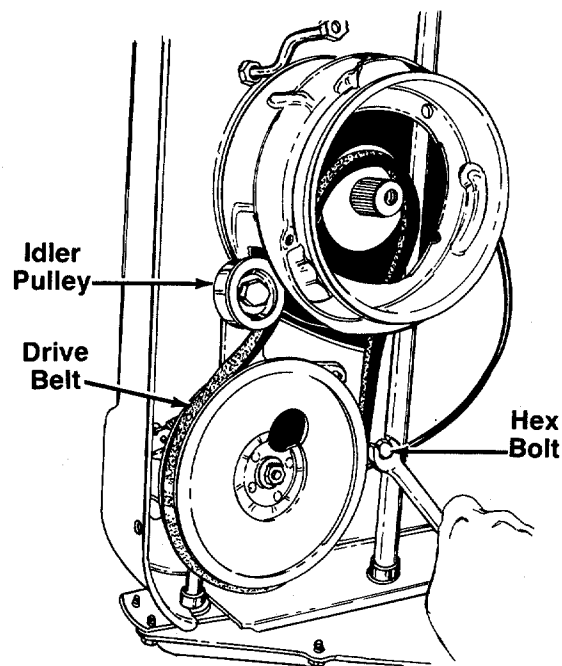

FIGURE 21.
3. Remove the hex bolt (which acts as a belt keeper) shown in figure 21.